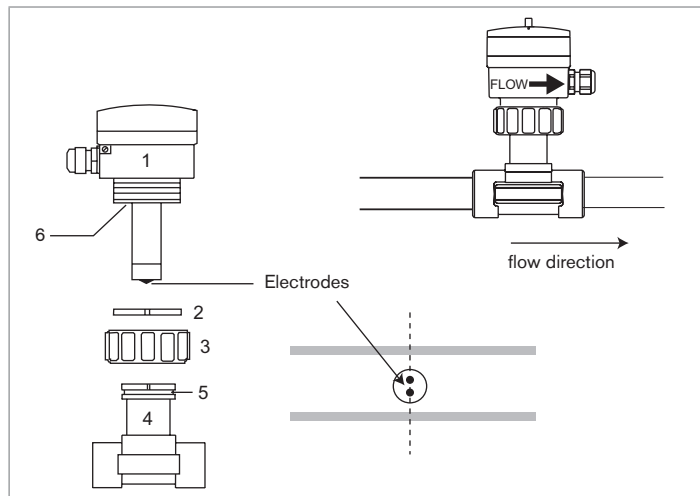

Fig. 8 : Installation into the pipe of a 8045 with a G2" nut
- Check that there is a seal (see mark 6, Fig. 8) on the flow sensor.
- Insert the nut (see mark 3, Fig. 8) on the fitting.
- Insert the snap ring (mark 2 Fig. 8) into the groove (mark 5 Fig. 8).
- Insert the device (mark 1 Fig. 8) into the fitting.
- Tighten the nut (mark 3, Fig. 8) by hand on the device.